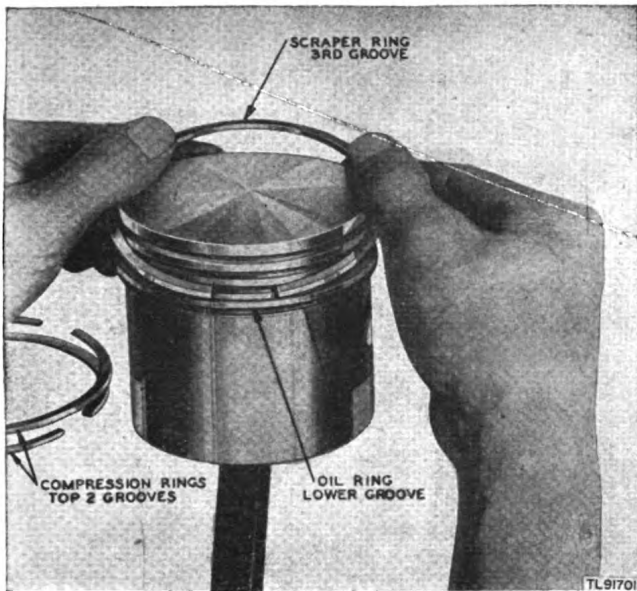

Figure 81. Assembly of piston rings.
b. REPLACEMENT. (1) Check the piston rings and replace them if necessary. (See fig. 81.) The piston rings should have a side clearance in their grooves of 0.002 to 0.003 inch and a gap of 0.012 inch. The ring gap must be measured at the lower extreme of the piston travel. Clean the carbon from the ring grooves and make sure that the rings move freely in their grooves. Replace any rings that are not satisfactory.